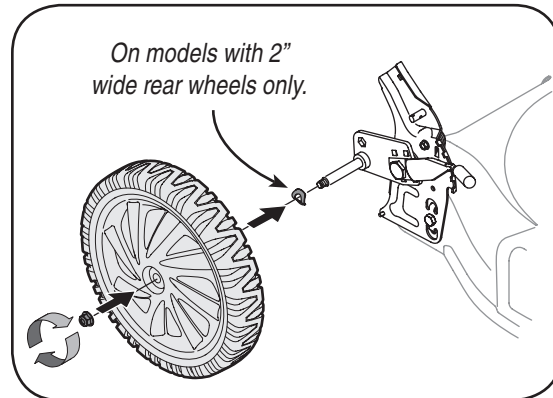

Figure 3-1
- On models with 2" wide rear wheels, make sure the spring washer is on the inside of the wheel between the wheel and the lawnmower, cupped side towards the bracket. See Figure 3-1.